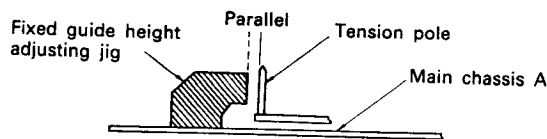

Figure 15.
- 2) Install the fixed guide height adjusting jig as shown in Figure 15.